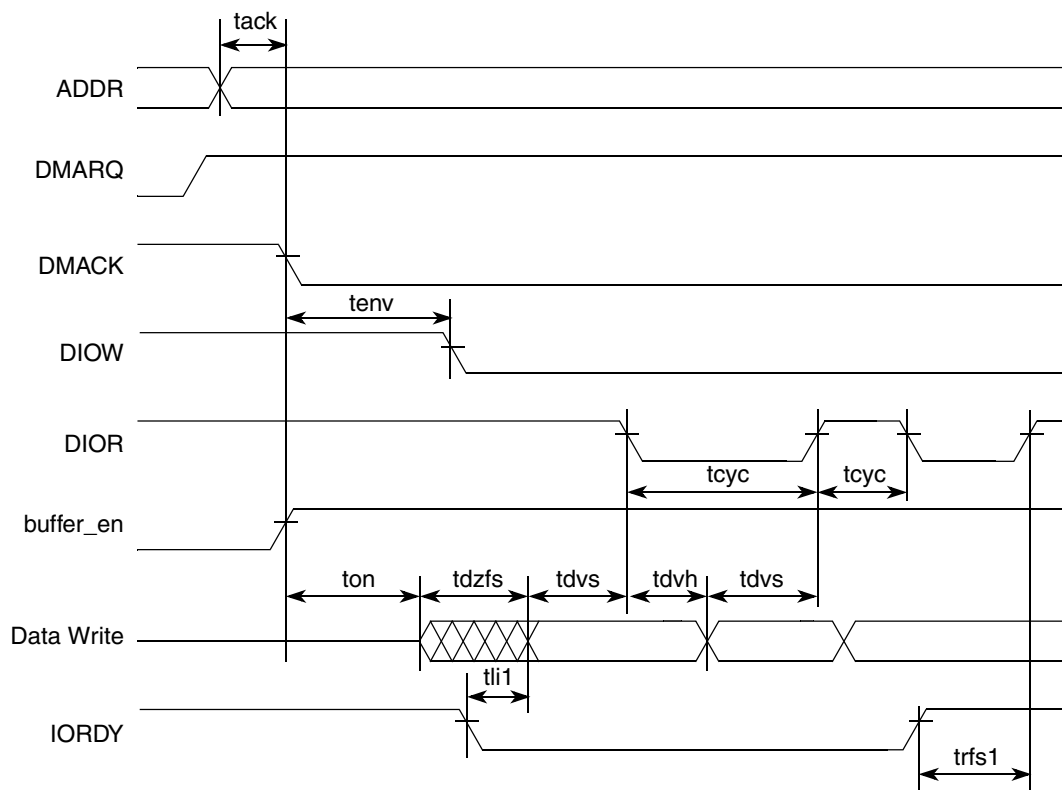

Figure 31. UDMA Out Transfer Start Timing Diagram
- Figure 31 gives timing for UDMA out transfer start